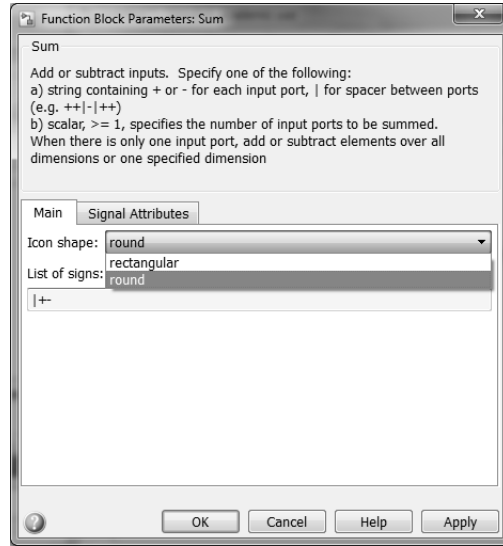

Figure 1.9: Block Parameters for the **Sum** control. In many cases it is best to also select the rectangular shape over the default round shape.
- Double-click the **Sum** control to bring up **Block Parameters** as shown in Figure 1.9 and change from |++ to |+- in order to set addition/subtraction nodes. [Note that the symbol ' | ' is a blank node. Also, one can change the block to rectangular form. This is often useful in displaying an overall flow direction to the model. In this case the spacer, |, is not needed.]